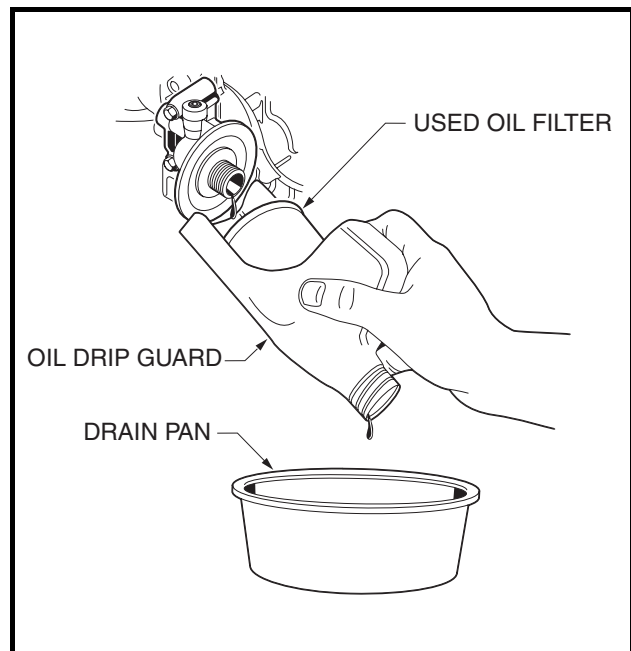

**Figure 18 Engine Oil Drain Plug and Pan**
5. Position a pan designed for oil changes under the front drain plug (**Figure 18**).
10. Relocate the oil drain pan to a position under the engine oil filter (**Figure 18**).